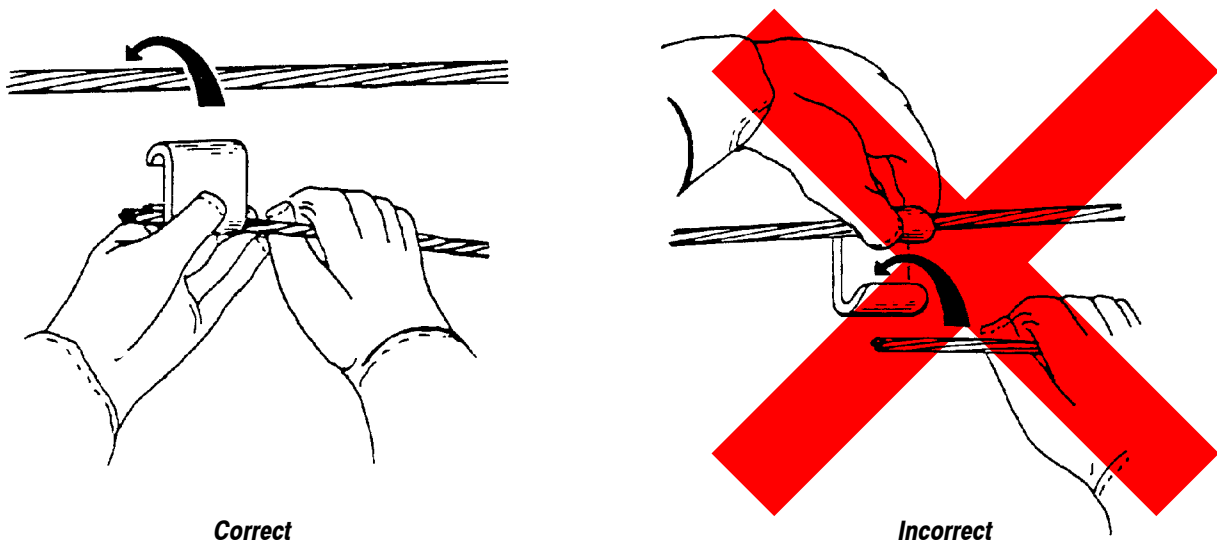

Figure 12
**DANGER**  *TO AVOID PERSONAL INJURY, WEAR PROTECTIVE GLOVES IN ACCORDANCE WITH COMPANY WORK PRACTICES WHENEVER YOU ARE WORKING WITH ENERGIZED LINES. Hold tap wire in “C” member, then hook the “C” member over the thru wire. The operator’s hands are not in series with the circuit by using this method. See Figure12 .*